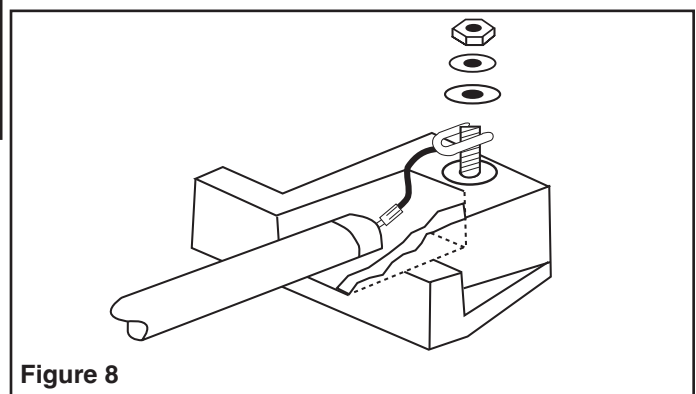

Figure 8
1. Remove terminal cover at each of fixture to gain access to terminal blocks. Loosen #10 hex nut and install element as shown in Figure 8.
one end of element as shown in Figure 8. With one end of element attached to terminal, slide insulator over metal sheath element and attach opposite end of element. Complete assembly as shown in Figure 9 using bracket with one mounting hole (discard brackets with 2 mounting holes).